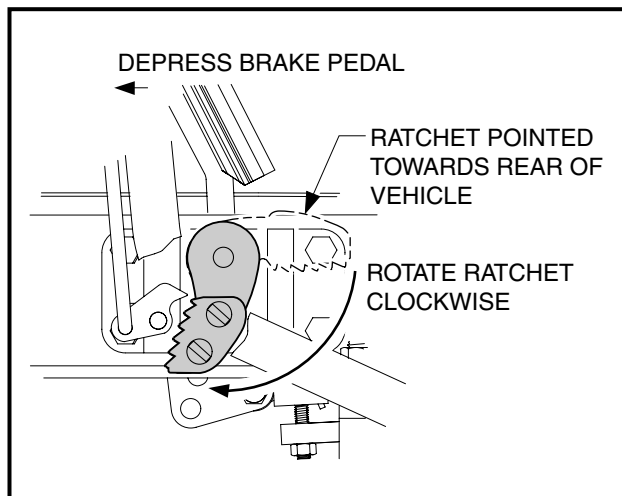

Figure 5-28 Ratchet Installation
7. Depress the brake pedal slightly, and with the park brake ratchet oriented so that the tip of the ratchet is pointed toward the rear of vehicle, slide the ratchet onto the pivot rod (do not slide the ratchet onto the pivot rod splines). Release the brake pedal and allow the ratchet to rotate until its tip is pointed downward (**Figure 5-28, Page 5-21**). The ratchet should now rotate freely on the rod.
9. Depress the brake pedal slightly, and with the park brake ratchet oriented so that the tip of the ratchet is pointed toward the rear of vehicle, slide the ratchet onto the pivot rod (do not slide the ratchet onto the pivot rod splines). Release the brake pedal and allow the ratchet to rotate until its tip is pointed downward (Figure 5-28, Page 5-21). The ratchet should now rotate freely on the rod.